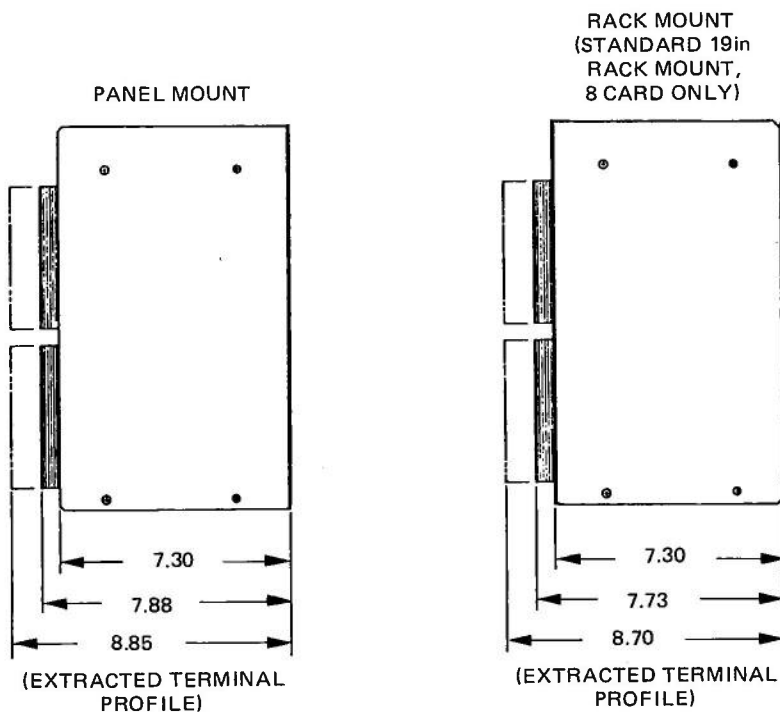

Figure 7-33. Horizontal Rack Mounting
2. Horizontal rack mounting dimensions are shown in Figure 7-33.